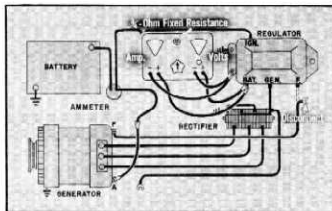

Fig. 51
3. Disconnect "F" wire from regulator before starting engine (fig. 51). Start engine and operate at 1300 RPM. Momentarily touch "F" wire to its terminal. If output exceeds 9 volts, temporarily adjust the voltage regulator down to about 8 volts.